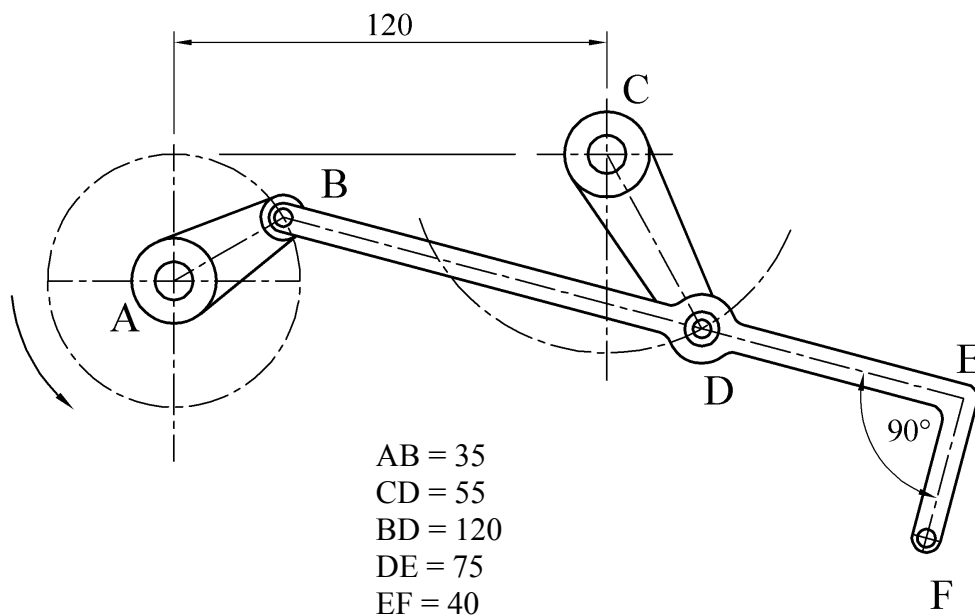

Fig. 3
- (b) Fig. 3 shows a link mechanism. A and C are fixed points. Crank AB rotates in an anti-clockwise direction. Link BDEF is pin jointed at B and D. Link CD oscillates about point C.